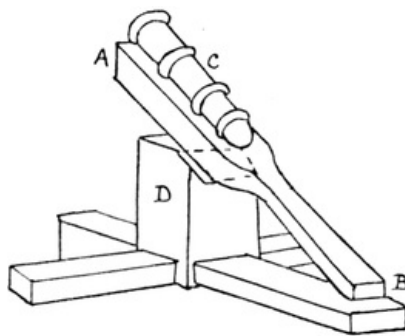

FIG. 331
**Cannons of the Fourteenth Century.** These are very easily made. Figs. 331 and 332 show two that can be copied.
In Fig. 331 a piece of wood is cut to the shape of A B; a groove is then filed in it, into which the cannon C is glued. The cannon may be made of a roll of brown paper (two pieces may be pasted together for greater strength) with four bands of cartridge paper painted yellow and gummed round it, or it may be a piece of wood filed to shape and circled with bands of lead.
Figs. 331 and 332 are examples of muzzle-loading cannons and therefore have holes only at one end.